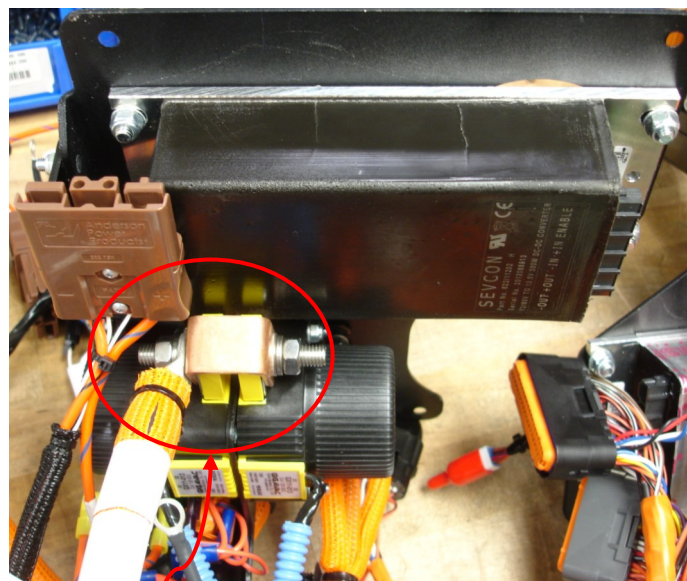

Figure 49
34. Install **CONT B+** end of HARN X CONT TO CTRL S4 MY13 (ITEM 30) to the **left side** of the contactor. Install with tab facing OUT. See FIGURE 49 and 50.